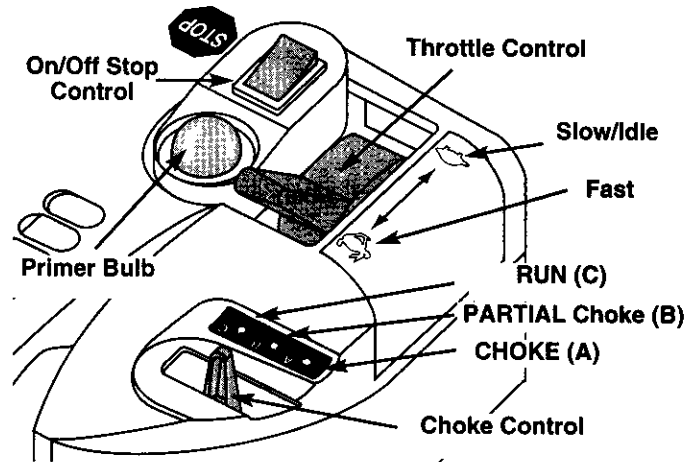
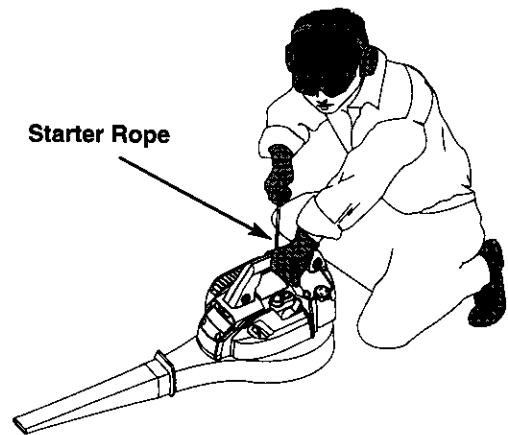

Fig. 10
Fig. 11
1. Set the throttle control to the idle position () (Fig. 10).
2. Press and hold the On/Off Stop Control down in the STOP position until the engine comes to a complete stop (Fig. 10).
NOTE: Mix gas with oil (40:1 ratio). See gas and oil mixing instructions on page 10. Fill your unit with oil and gas mixture and hold unit firmly when starting (Figs. 11 & 12).
NOTE: The On/Off Stop Control is a momentary switch and is always in the ON position (Fig. 10).
1. Fully press and release primer bulb slowly 5 to 7 times. Fuel should be visible in the bulb (Fig. 10). If fuel is not visible, press three (3) more times, or until it is.
2. Move choke lever (Fig. 10) to **CHOKE** () **A**.
3. Place the throttle control in the fast position () and pull starter rope (Figs. 11 & 12) until engine attempts to start (1-3 pulls).
5. Pull starter rope (Figs. 11 & 12) until engine attempts to run (1-3 pulls).
6. Move choke control to RUN () **C** position (Fig. 10). Pull starter rope (Figs. 11 & 12) until engine starts (1-7 pulls).
NOTE: If the engine floods while trying to start, place the choke control in the RUN () **C** position. Move the throttle control to the fast position () (Fig. 10). Pull the starter rope briskly. The engine should start with three (3) to eight (8) pulls.
NOTE: For a warm engine, go directly to Step 6. Move choke to RUN () **C** position and the throttle control in the fast () position. Pull starter rope (Figs. 11 & 12) until engine starts (1-7 pulls).